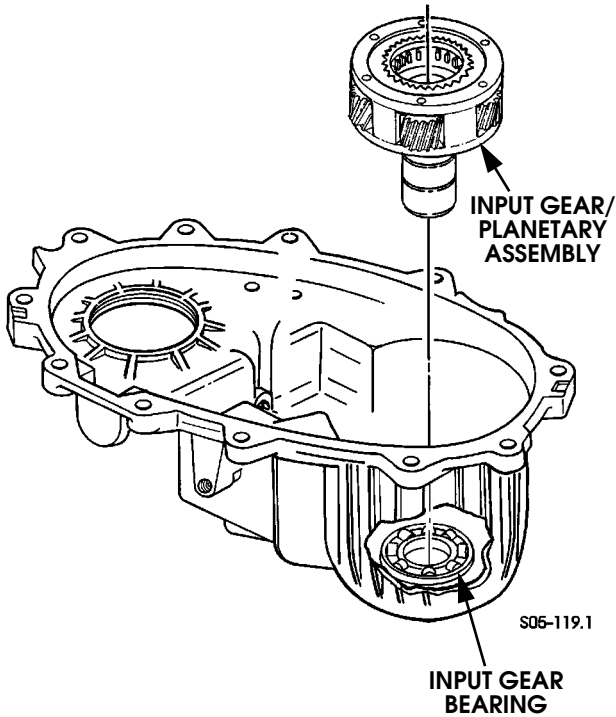

Figure 5-137: Input Gear/Low range Planetary Installation
3. Install input gear/planetary assembly in front case (Figure 5-137). Use wood hammer handle to tap input gear shaft through bearing.